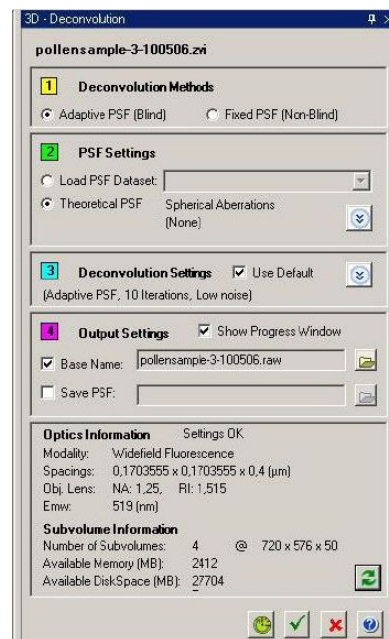

Figure 2b
a. 3D Deconvolution Menu bar appears on the right side; Adaptive PSF (blind) and Theoretical PSF should be selected (Fig. 2b). Blind deconvolution estimates PSF at the same time as it estimates the object, and can respond to PSF changes between different PSF specimens unlike previously measured PSF. (Blind deconvolution is one form of constrained iterative algorithms.)
b. In Deconvolution Settings (Fig. 2b), the number of iterations can be adjusted downwards, if time is a critical factor (default is 10 = duration ~10 min. depending on data set). The number of iterations tells how many times the computational operations are done to each image.
c. Optical and microscope settings are imported from the zvi-file directly. You can see them in Figs. 2b and 3.